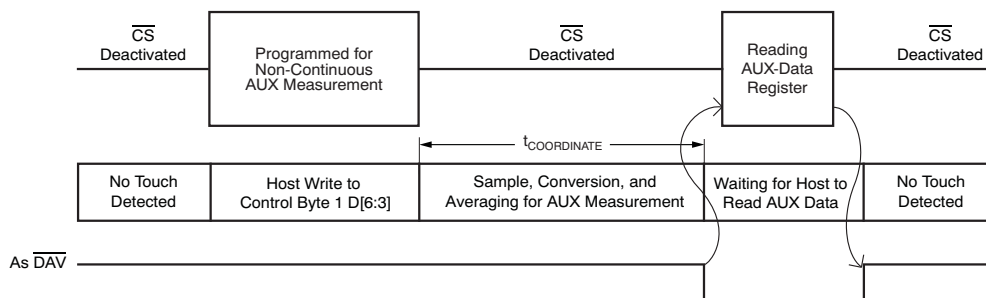

Figure 39. Non-Touch Screen, Non-Continuous AUX Measurement
1. Non-continuous AUX measurement shown in Figure 39 (converter function select bits C[3:0] = Control Byte 1 D[6:3] = 0101); or
For the detailed calculation of the internal temperature sensor, please see the SubSec1 9.3 section. These two converter functions have the same timing as the non-continuous AUX measurement operation as shown in Figure 39; therefore, Equation 12 can also be used for internal temperature sensor measurement. The time needed to make a non-continuous auxiliary measurement or an internal temperature sensor measurement is given by: